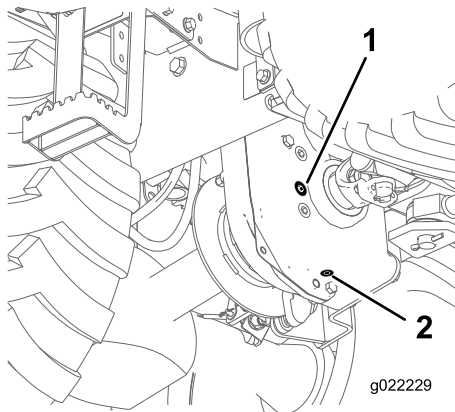

Figure 28
2. Clean the area around the fill plug with a cleaning solvent (Figure 28).